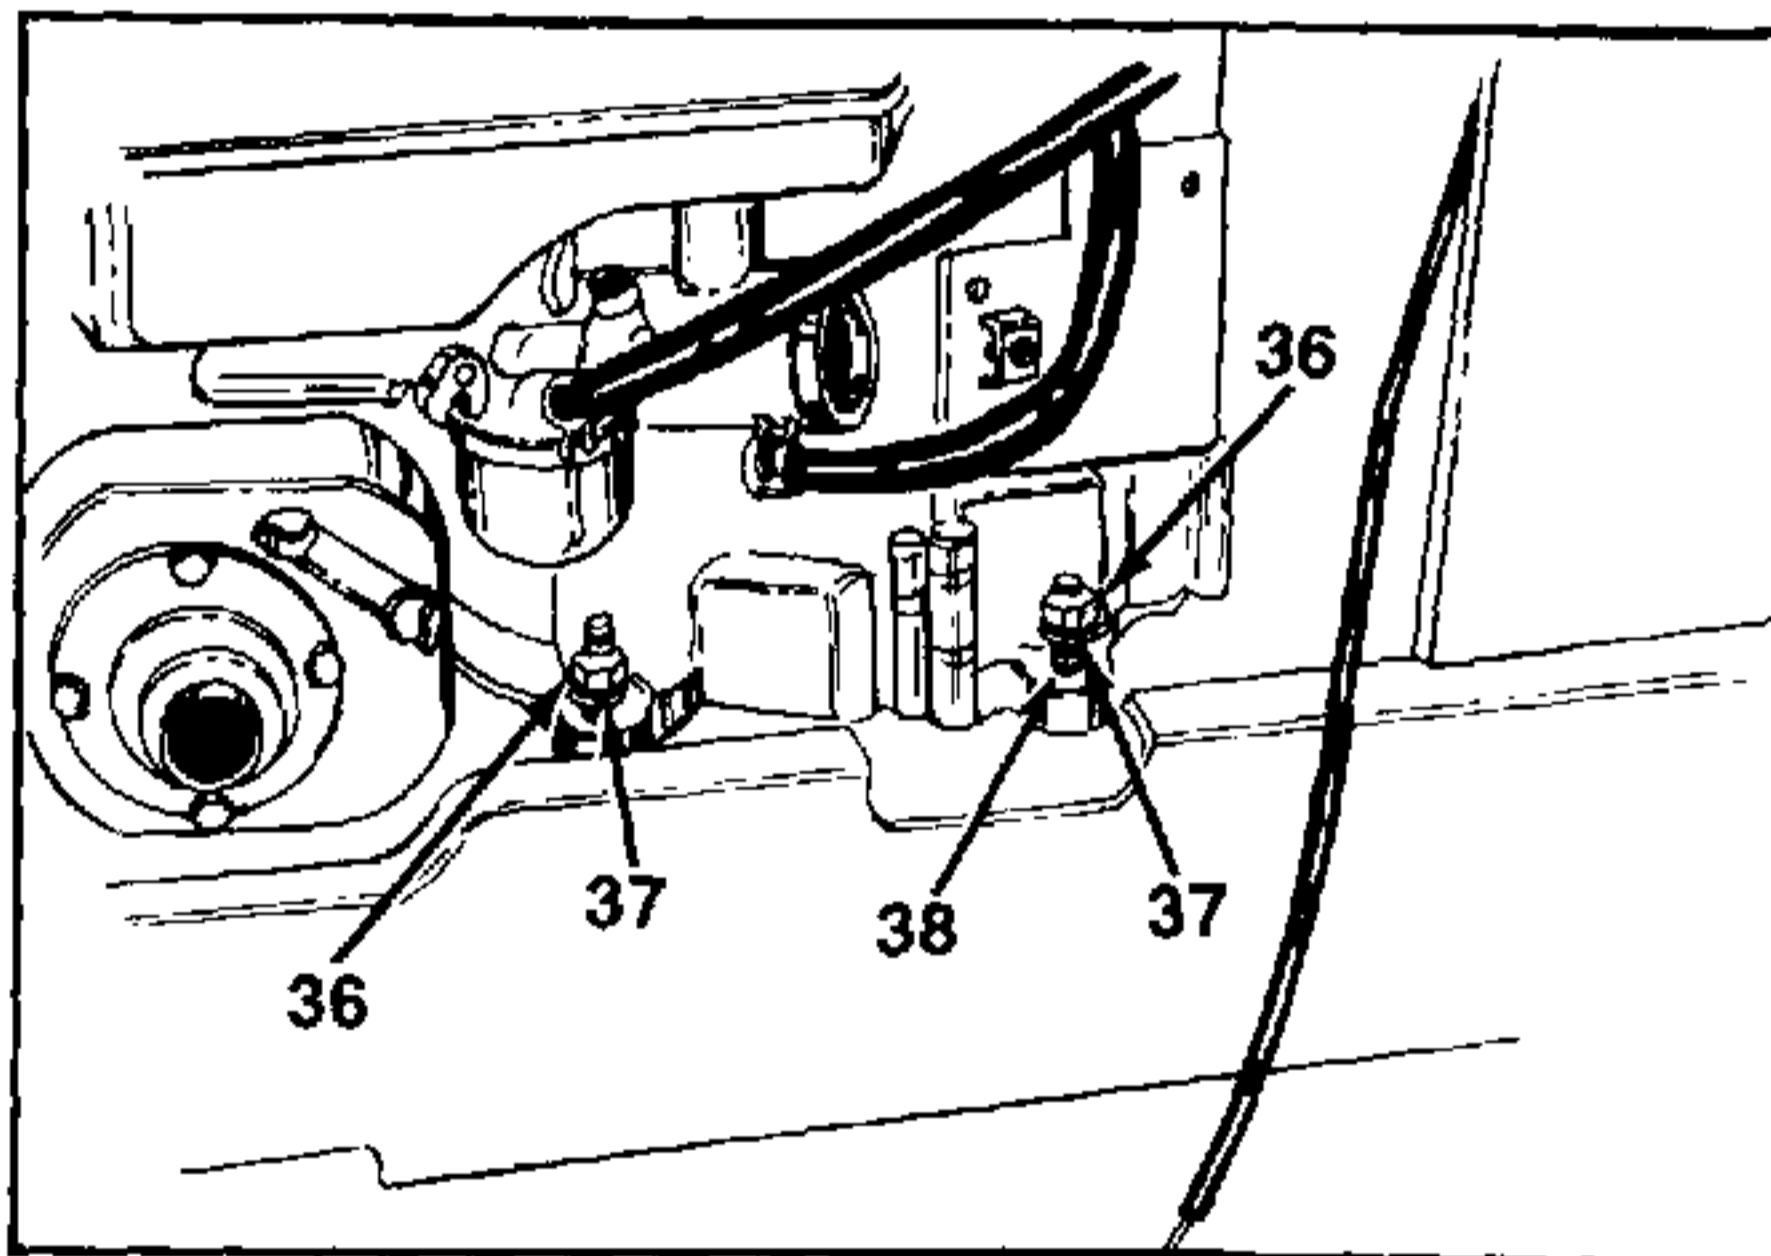

FIGURE 20.
18. Now the engine may be unbolted and removed. Remove four hex nuts (Ref. 36), lock washers (Ref. 37) and hex bolts (Ref. 39) at the engine base. See figure 20.